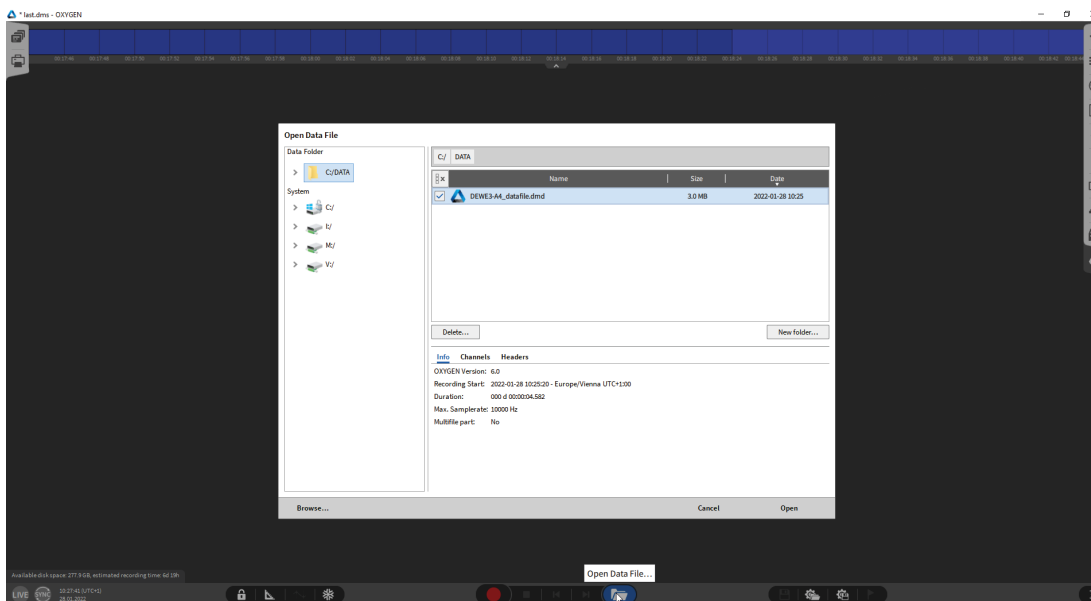

Fig. 12: Opening datafile
1. Click on the file button, and select the corresponding file (see Fig. 12).